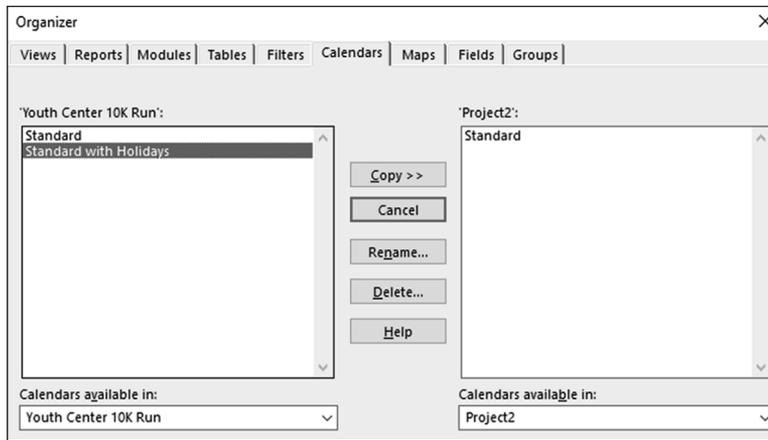

FIGURE 8-8:
- 7. In the list on the left, click the calendar you want to copy and then click the Copy button, as shown in Figure 8-8.**